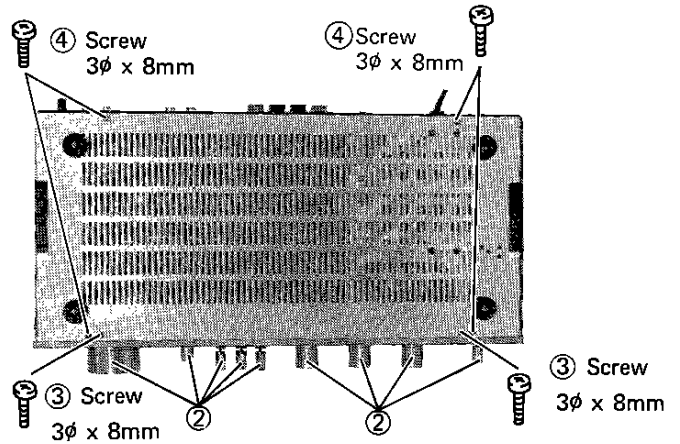

Figure 4.
2. Remove nine knobs ②. See figure 4.
3. Remove two screws ③. See figure 4.
1. Remove four screws ④. See figure 4.